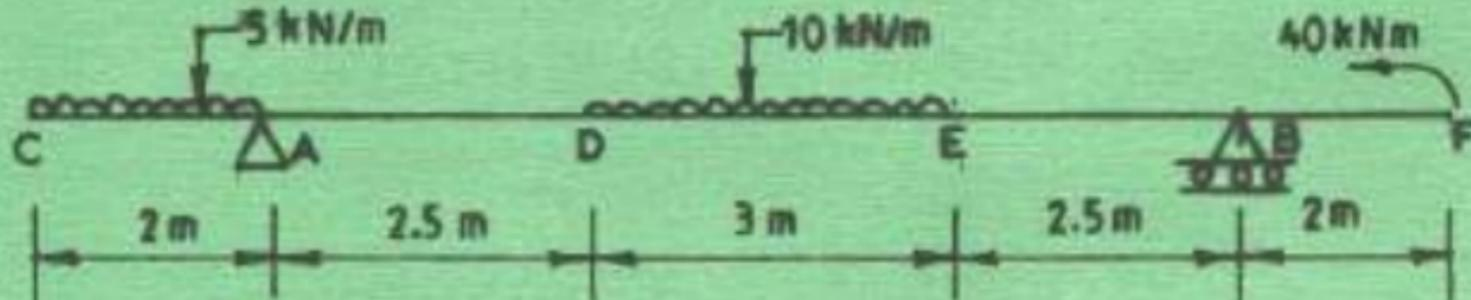

Fig. 1
- (b) Figure 1 shows a loaded beam: